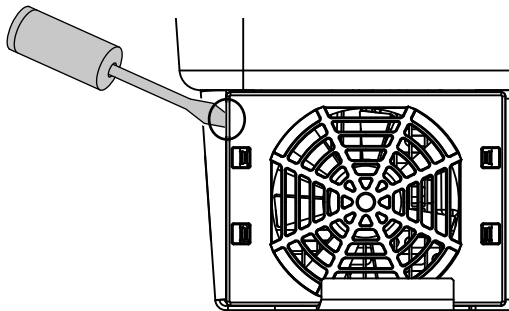

Fig. 73: Loosen fan grill
2. Dismantle the fan. To do this, place a screwdriver at the edge of the fan grill and apply a little pressure to the fan grill.  **Fig. 73**